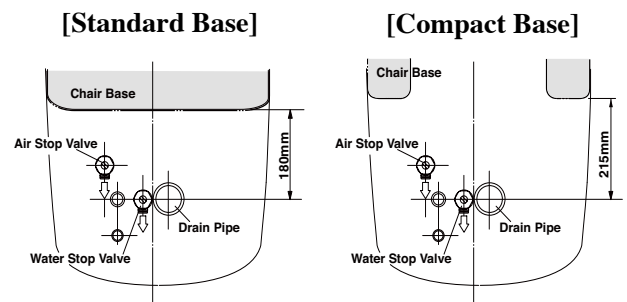

Fig.6-6 Direction of Water and Air Stop Valves
- Install the water stop valve and the air stop valve to each supply pipe. The positioning of the stop valves are shown in **Fig.6-6**.